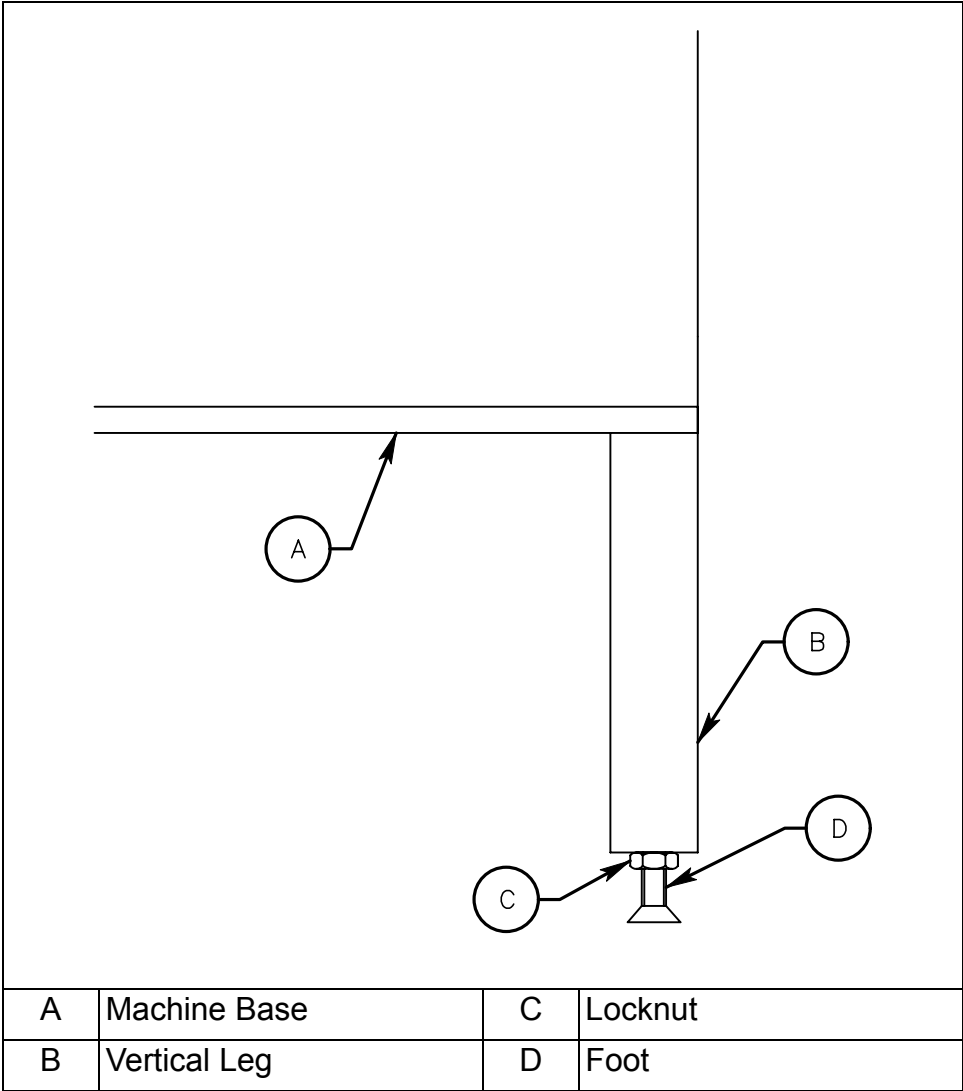

Figure 4-2: Leveling Screw
2. Adjust the legs to allow for floor variation, as shown in Figure 4-2 on page 4-4.